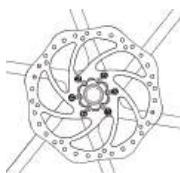

Figure 2-1: Disc and Disc Fixing Screw Locking Sequence
- ① Install the disc on the hub, note that the logo on the disc must face outwards (the direction of rotation of the wheel is the same as the direction of the disc arrow), and then use the disc fixing screws to lock the disc to a half-tight condition. To ensure the flatness of the disc, the disc screws should be tightened alternately in opposite positions.
- ② Wearing protective gloves, apply a certain amount of force to the disc in a clockwise direction while tightening the disc screws in a diagonal order (as shown in Figures 2-1 and 2-2).
- ③ Disc fixing screw locking torque 60kgf-cm (55 lb-in)